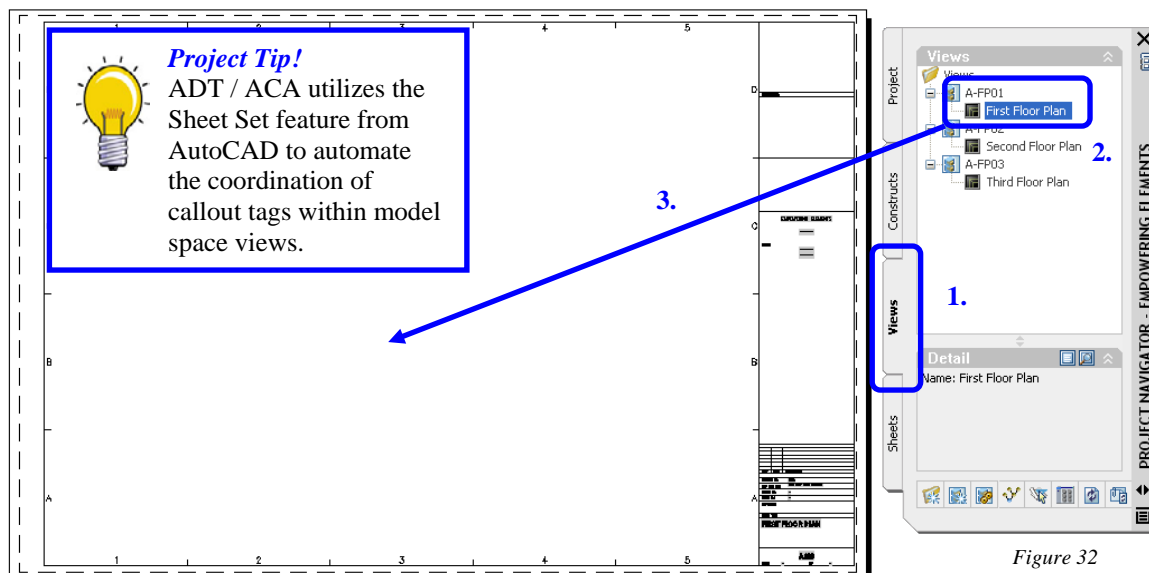

Figure 32
3. Press and drag the **First Floor Plan** into the sheet. *Figure 32*